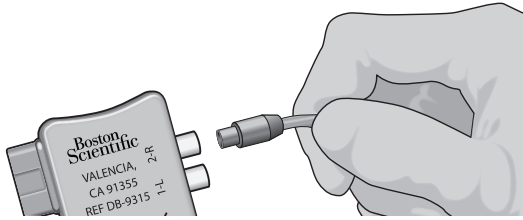

Figure 9: Connection of the 1x8 OR Cable to External Trial Stimulator 2 and ETS Adapter
4. Plug the OR Cable with Extension into the ETS Adapter socket labeled "1-L" (Figure 9). If two DBS leads are being used, connect the left DBS Lead to socket "1-L" and the right DBS Lead to socket "2-R."